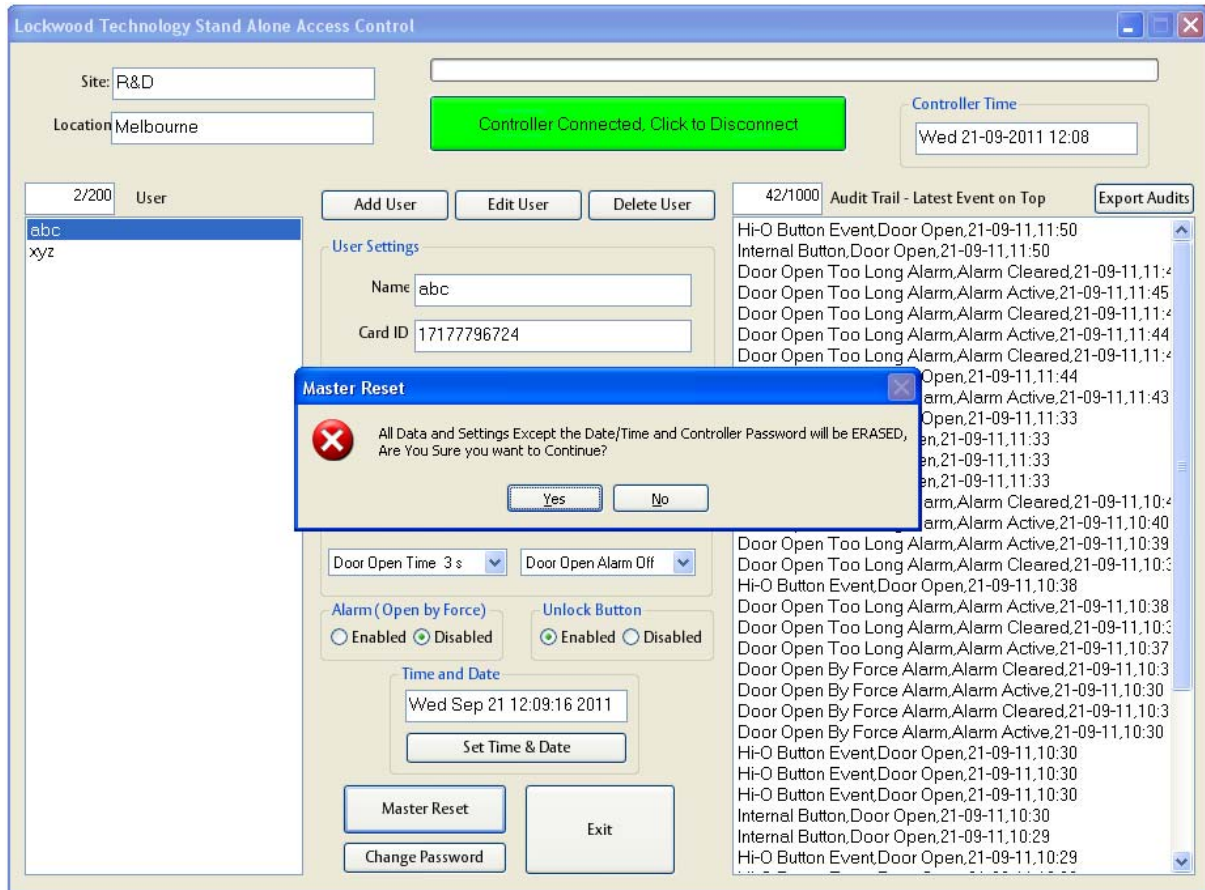

Figure 22: Master Reset
- Refer figure 22.
Select "About" button to read information of test software revision number as shown below figure 22.